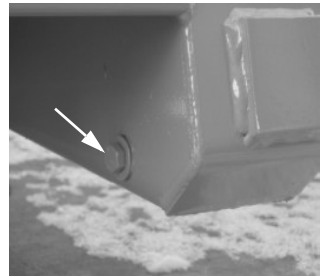

Figure 34 Drain Plug
2. Remove the drain plug on each chaincase (Figure 34) and drain the oil into a suitable container.